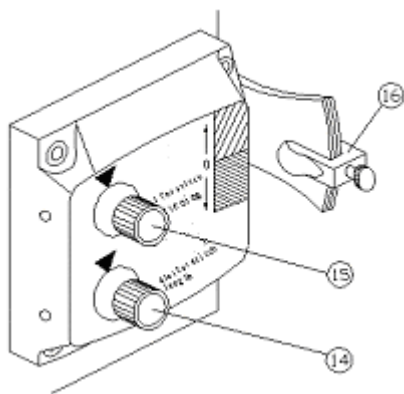

FIG.4
The stitch length is adjusted by means of the graduated "stitch length adjustment" dial (14). If the dial is set at the number "0" the stitch will be of minimum length. Turning the dial clockwise as far as the number "8" will adjust the stitch to its maximum length. FIG. 4.
The length of the long-short stitch or the short-long stitch is adjusted by means of the graduated stitch correction dial (15). To obtain the maximum correction of the stitch the dial should be set at the number "6". Turning the dial clockwise toward the number "0" will reduce the correction to nothing. FIG. 4.
- (f) Remove the four screws that hold on the stitch adjustment box (104) and take it off. After having checked and if necessary adjusted the three main levels, reinstall the box by following the instructions for dismantling in reverse order, inserting the connecting pin (94) in the assembled box before attaching the spring of the stitch lengthener. Attention: level A must be checked with the graduated dial (15) for correction of the stitch turned as far as it will go in an anti-clockwise direction so that the pin (105) is at the bottom of the reverser (106). Before commencing adjustment of the transport, set the stitch correction to zero and the stitch length to maximum. These settings are made by means of the appropriate graduated dials (14-15). FIG. 4.